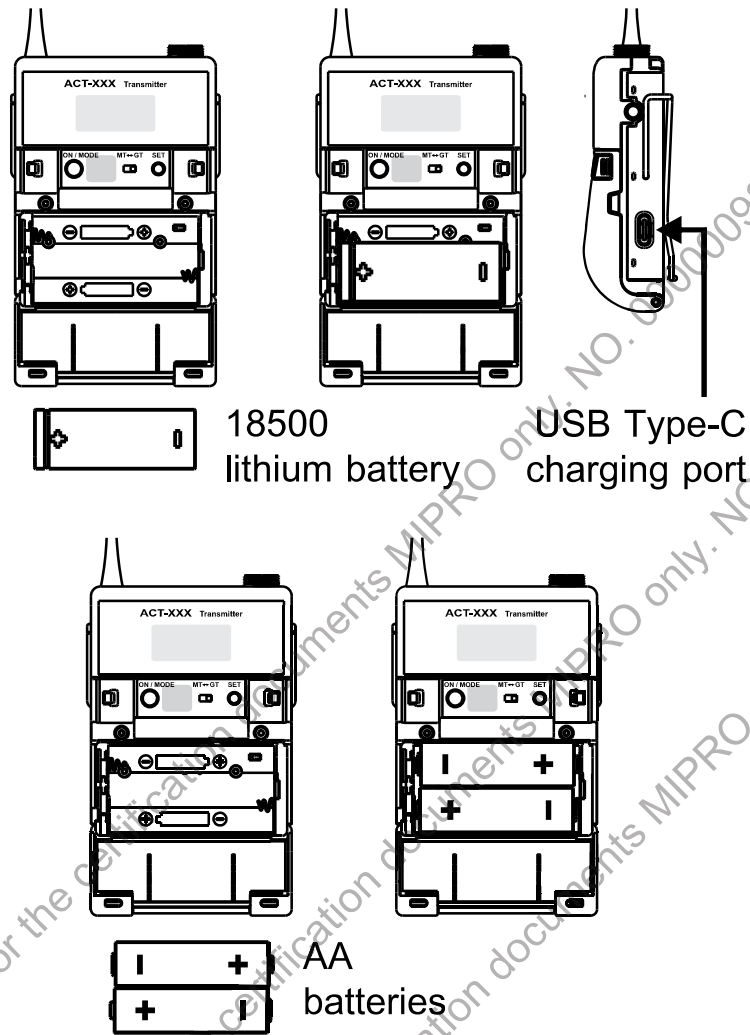

Fig. 4
1. Battery Insertion. Fig. 4
- (A) Press the battery cover side hooks **13** inward to lift the battery cover.
- (B) Insert one 18500 lithium battery or two AA batteries.
- (C) 18500 lithium battery insertion: + pole faces toward left.
- (D) AA batteries insertion: insert one into the lower holder with + pole toward left, and then insert another into the upper holder with – pole toward left.